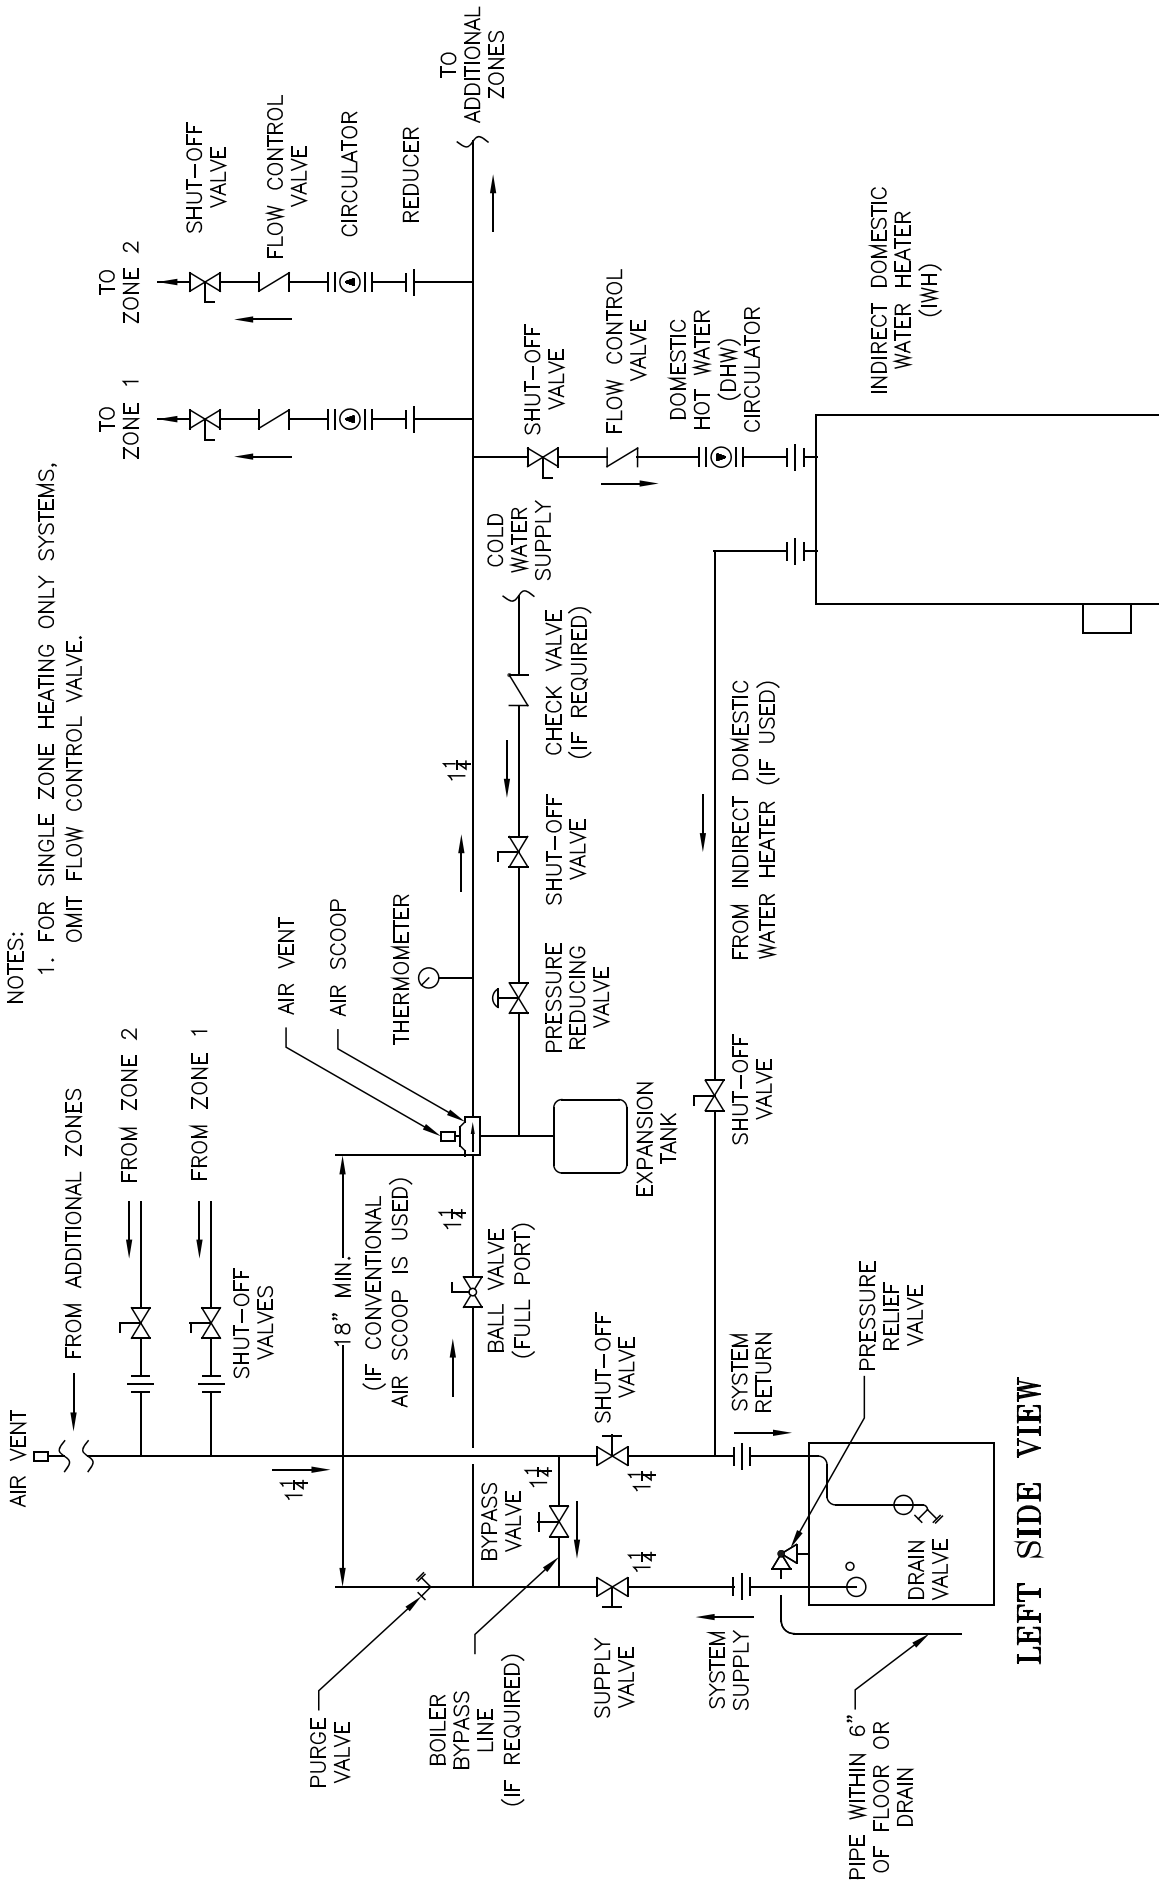

Figure 4: Recommended Water Piping for Circulator Zoned Heating Systems
- F. **If boiler is used in connection with refrigeration systems**, boiler must be installed with chilled medium piped in parallel with the heating boiler using appropriate valves to prevent chilled medium from entering boiler. See Figure 4. Also consult Residential Hydronic Heating Installation and Design I=B=R Guide.